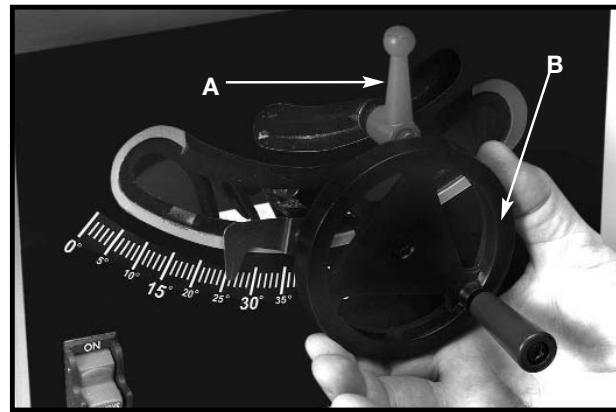
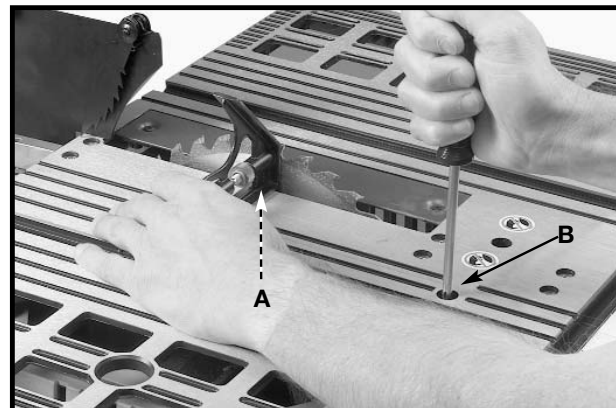
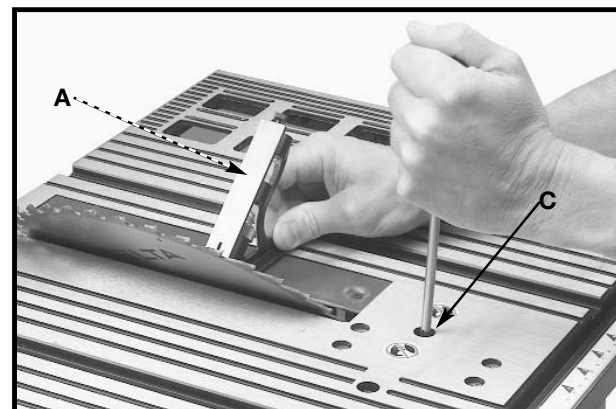

Fig. 32
Fig. 33
Fig. 34
To tilt the saw blade, loosen the lock handle (A) Fig. 32 and move the handwheel (B) until the blade is at the desired angle. Tighten the lock handle (A).
**NOTE:** The lock handle (A) is spring-loaded. Pull out on the handle (A) and reposition it on the serrated stud located underneath the handle.
**⚠ WARNING: THE BLADE TILTING LOCK HANDLE (A) MUST BE LOCKED DURING ALL CUTTING OPERATIONS.**
2. Loosen the blade tilting lock handle (A) Fig. 32, move the blade tilting mechanism (B) as far as possible to the left, and tighten the blade tilting lock handle (A).
3. Place a square (A) Fig. 33 on the table with one end of the square against the blade, and check to see if the blade is 90 degrees to the table. If not, loosen the screw (B) Fig. 33 a few turns and move the blade tilting mechanism until the blade is 90 degrees to the table. Tighten the blade tilting lock handle (A) Fig. 32, and tighten the screw (B) Fig. 33 until it stops.
2. Loosen the blade tilting lock handle (A) Fig. 32, move the blade tilting mechanism (B) as far as possible to the right, and tighten the blade tilting lock handle (A).
3. Place a square (A) Fig. 34 on the table with one end of the square against the blade, and see if the blade is 45 degrees to the table. If not, loosen the screw (C) Fig. 34 a few turns and move the blade tilting mechanism (B) Fig. 32, until the blade is 45 degrees to the table. Tighten the blade tilting lock handle (A) Fig. 32, and tighten the screw (C) Fig. 34 until it stops.